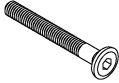

Figure 14
2. Attach **Base Gliders (L)** into specified holes at the foot of **Headboard Panel** as shown in **Figure 14**.